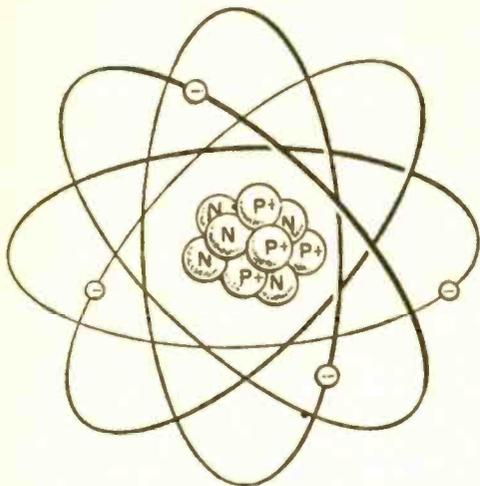

Fig. 1. Diagram of the beryllium atom.
**Fig. 1.** It takes a good man with good tools to do a topnotch job in constructing and repairing electronic equipment. Check the photo above to determine whether your stock of tools is greater. Since tools can be purchased separately, cost shouldn't be a deterrent to the acquiring of a tool box filled with quality tools.
These additional tools are just about all that will be required to construct even the most elaborate piece of gear. A few of these tools are pictured in Figure 1.
The structure of the atom is somewhat like our own solar system. Figure 1 is an atomic diagram of the beryllium atom. The atom's central nucleus consists of protons which carry what is known as a positive electrical charge and neutrons which possess a zero electrical charge. Around this positively charged nucleus, orbit negatively charged electrons. In a normal atom, the number of electrons in the orbits exactly equal the number of protons in its central nucleus. Thus, the negative charged orbiting electrons neutralize the positive protons and the atom has a zero net electrical charge.